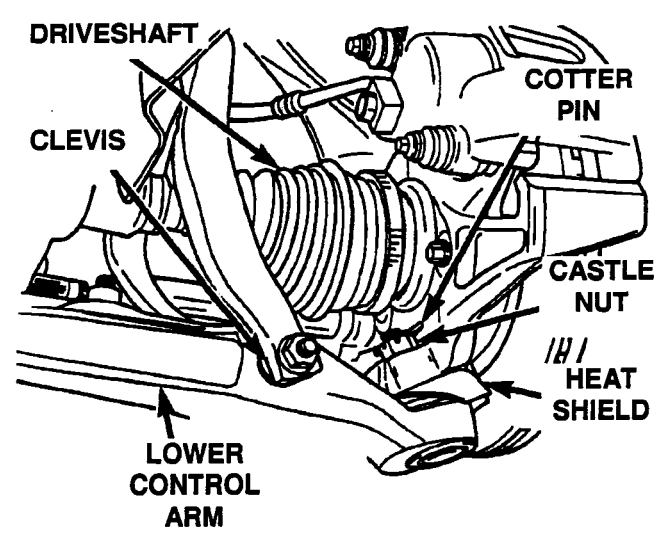

Figure 5
13. Remove the cotter pin and castle nut from the lower ball joint stud (Figure 5).
29. Using a crow's foot and a torque wrench, tighten the lower ball joint castle nut to 55 ft-lbs (75 N·m) and then install the new cotter pin (Figure 5).